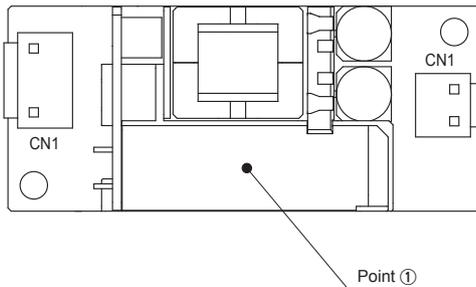

Fig.4.1 Temperature measurement point of TECS10F/20F(Top View)
- Please have sufficient ventilation to keep the temperature of point ① in Fig.4.1 - 4.3 at Table4.1 - 4.4 or below. Please also make sure that the ambient temperature does not exceed 70°C (TECS10F/20F is 85°C).
- Please be careful of electric shock or earth leakage in case of temperature measurement, because Point ① is live potential.